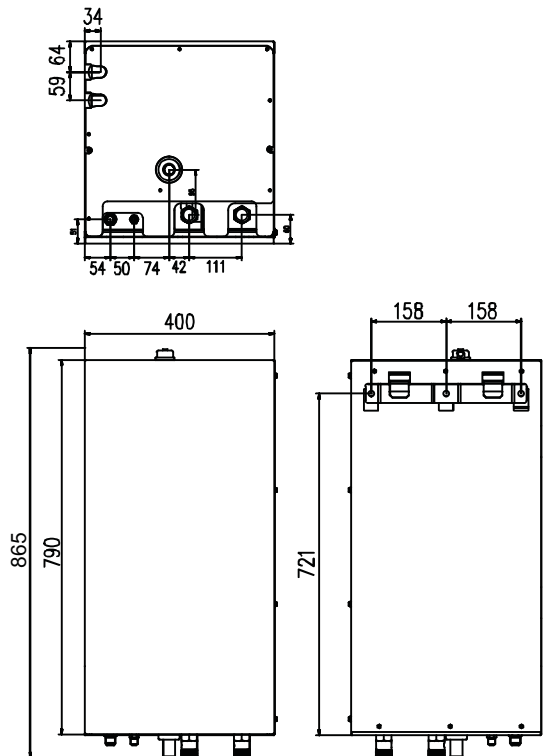

Fig. 5-2
- Dimensions of the unit, see figure 5-2.